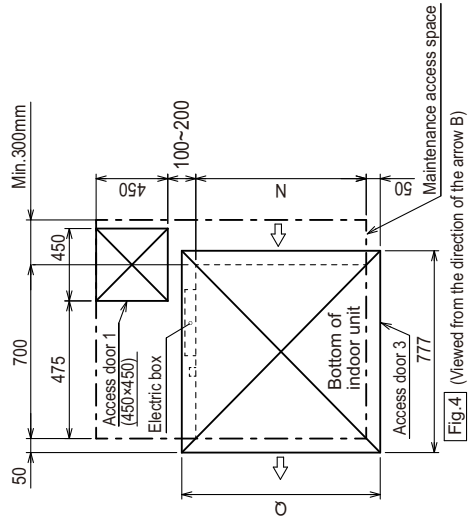

Fig.4
- Create access door 1 diagonally below the electric box and access door 3 below the unit as shown in Fig.4.